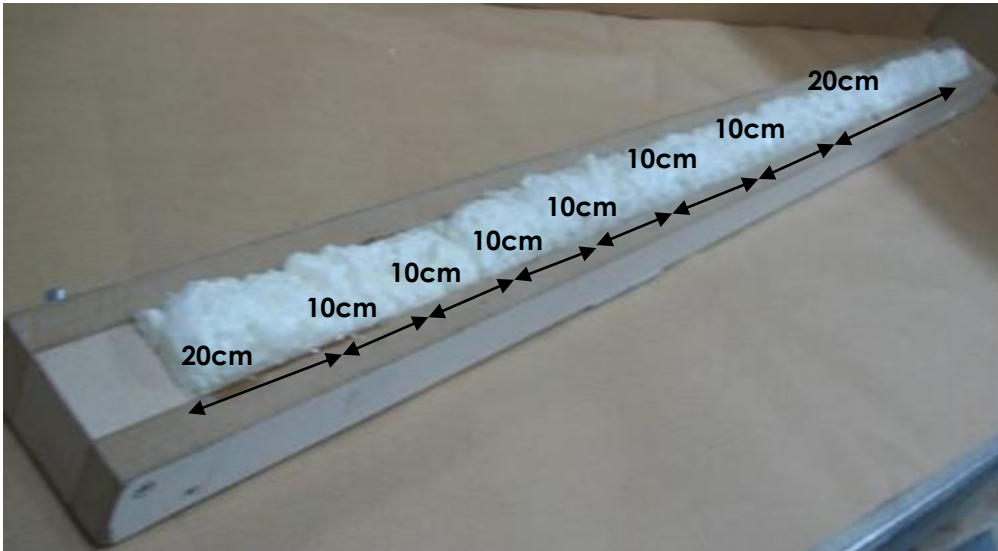
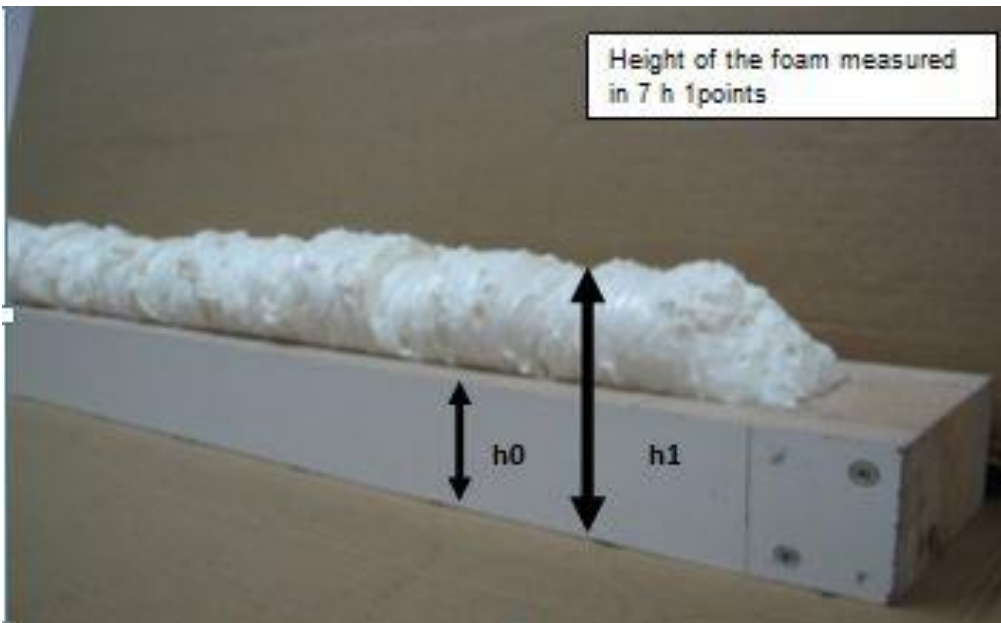

Fig. 3: Foam ready to be measured
Fig. 4: Foam ready for measurement
- m) Measure the height of cured foam in seven points by the use of range finder or caliper ( $h_1$ ). The measuring points should be always in the same position e. g. every 100 mm (Figure 3 and figure 4).